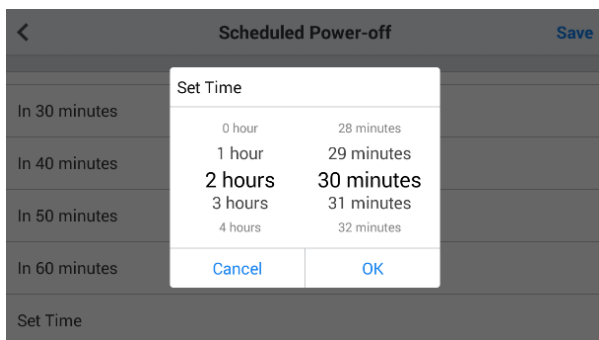

Figure 6-10 Sample Set Time Screen
3. Select one of the 7 choices: Disable, In 10 minutes, In 20 minutes, In 30 minutes, In 40 minutes, In 50 minutes, In 60 minutes. A tick will display to the right of the selected time. Manual time setting is also available. You can tap **Set Time** and roll up and down in the setting screen then tap **OK** to confirm (Fig 6-10).